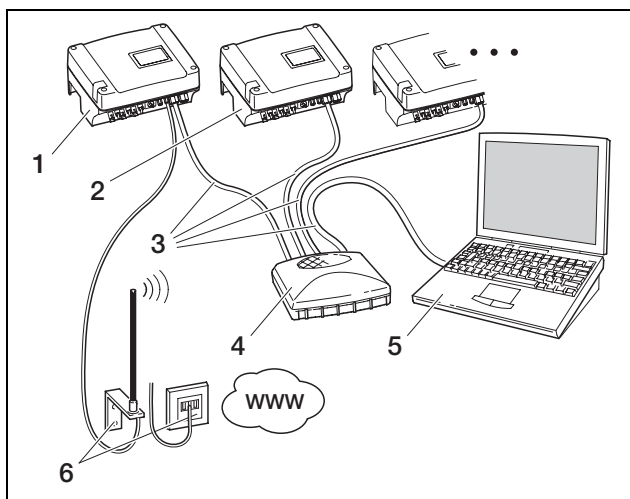

Fig. 72: Communication board I:
- You have a local network (Ethernet) with fixed IP addresses and wish to integrate the inverter into the network (figure 72 or 73).